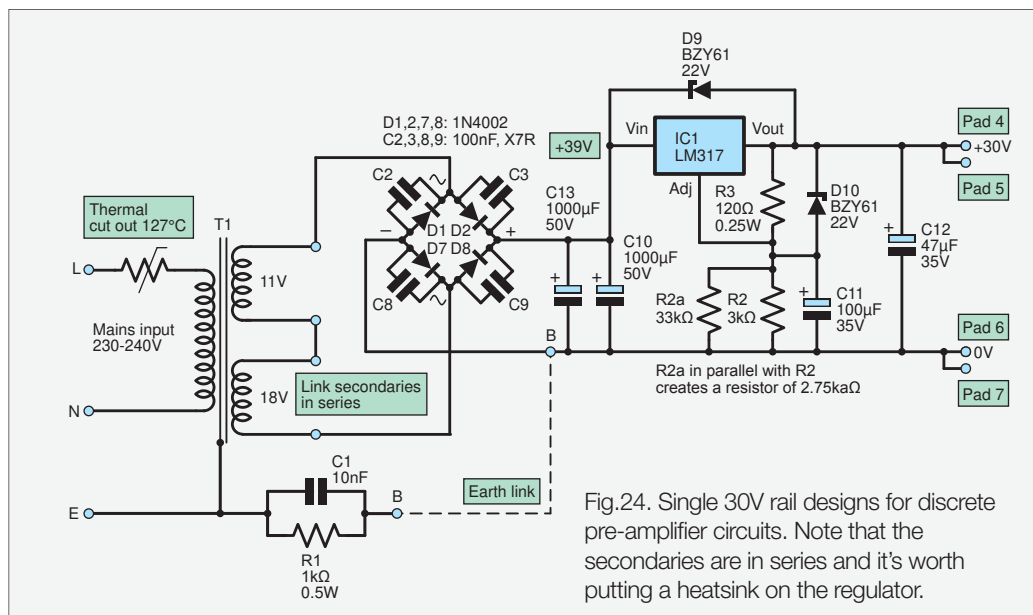

Fig.24. Single 30V rail designs for discrete pre-amplifier circuits. Note that the secondaries are in series and it's worth putting a heatsink on the regulator.
The absolute maximum input voltage to the LM317 is 37V. If the secondaries are connected in series (Fig.24), the off-load voltage can breach this so replace the standard protection diodes with Zeners.
- 2) **Single-rail +30V** – higher voltage design for discrete pre-amps and single rail op amp circuitry, as shown in Fig.24